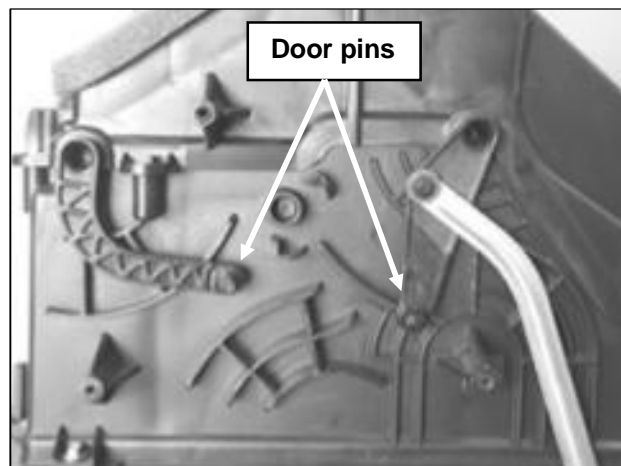

Figure 9
16. Confirm the 2 door pins are positioned as shown in Figure 9.